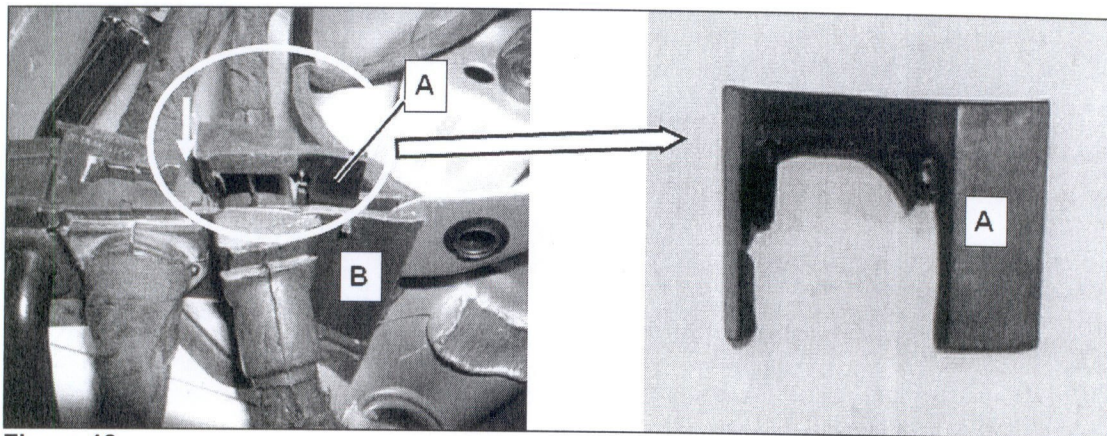

Figure 18
- Insert new routing clip (A, Figure 18) into wire harness guide (B) until top of clip (A) is flush with top of wire harness guide (B).